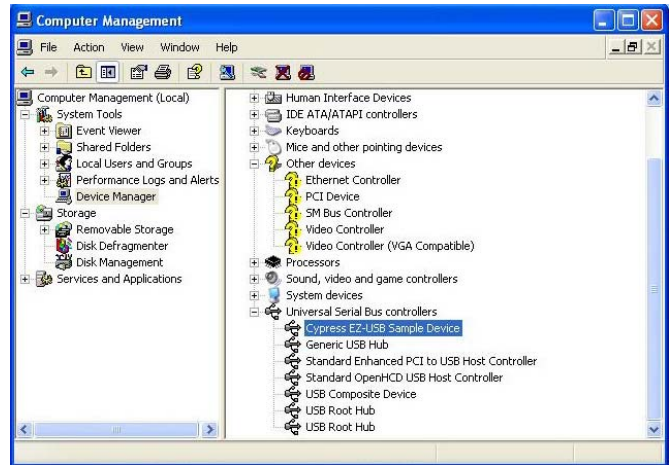

Figure 6. Device Manager: Checking that the Evaluation Board Is Connected to the PC Correctly
- c. The **Computer Management** box appears. From the list of **System Tools**, click **Device Manager** (see Figure 6).